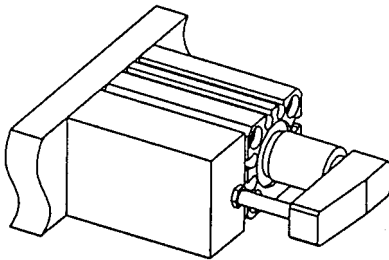

Figure 3
- ① Make sure to mount the cylinder vertically (Fig. 3).